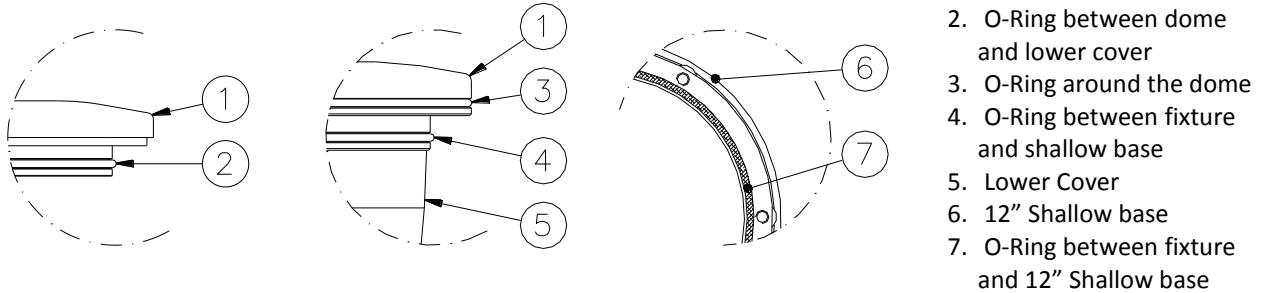

Figure 30– Fixture Gaskets
- O-Ring between dome and lower cover (Figure 30 - n°2);
- O-Ring around the dome (Figure 30 - n°3);
- O-Ring between fixture and 8" shallow base (Figure 30 - n°4);
- O-Ring between fixture and 12" shallow base (Figure 30 - n°7);